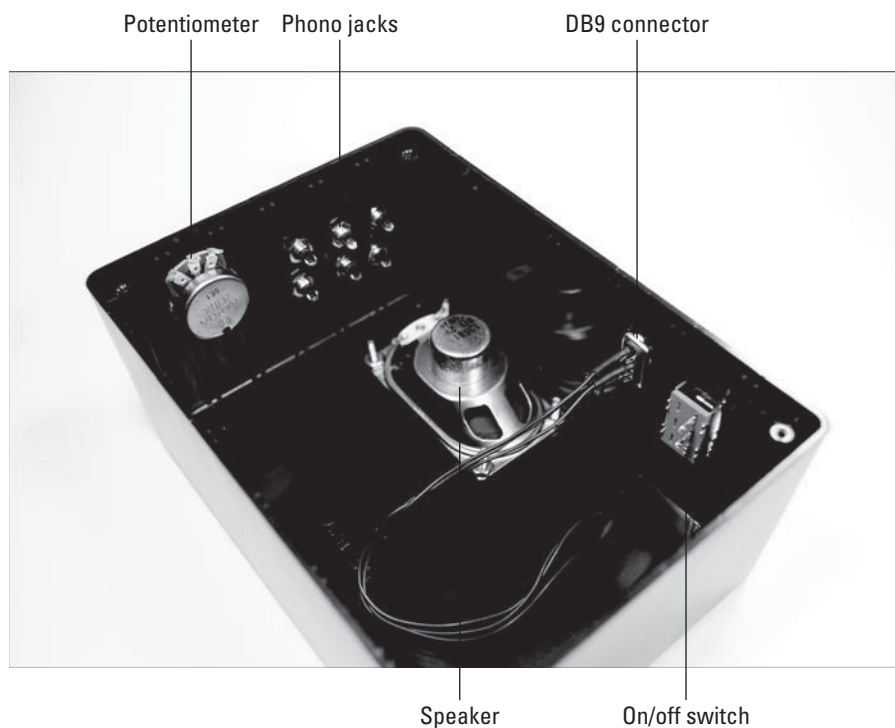

Figure 7-11:
1. Drill holes in the box for the phono jacks, potentiometer, speaker, DB9 connector, and on/off switch in locations as shown in upcoming Figure 7-11.
3. Insert the phono jacks, potentiometer, speaker, DB9 connector, and on/off switch as shown in Figure 7-11.